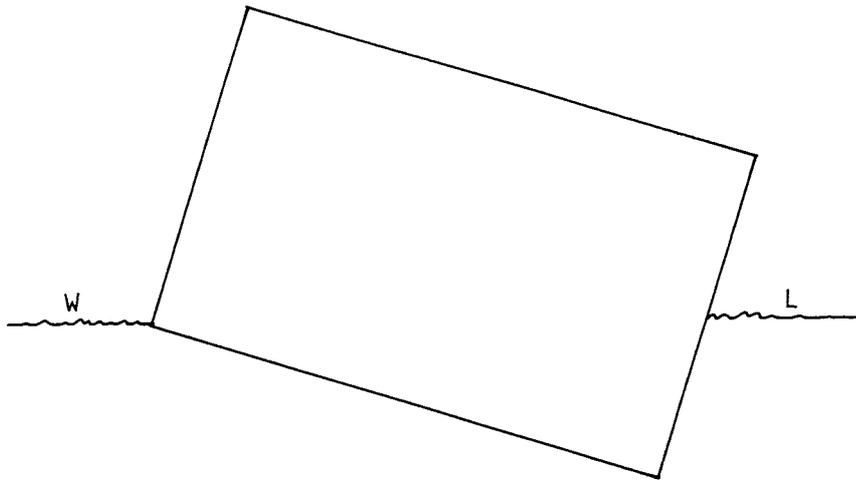

Fig. 1.9
Figure 1.9 shows a homogenous block of wood heeled over by an external force.
- (a) Reproduce Figure 1.9 and show clearly the positions of G and B on your drawing.